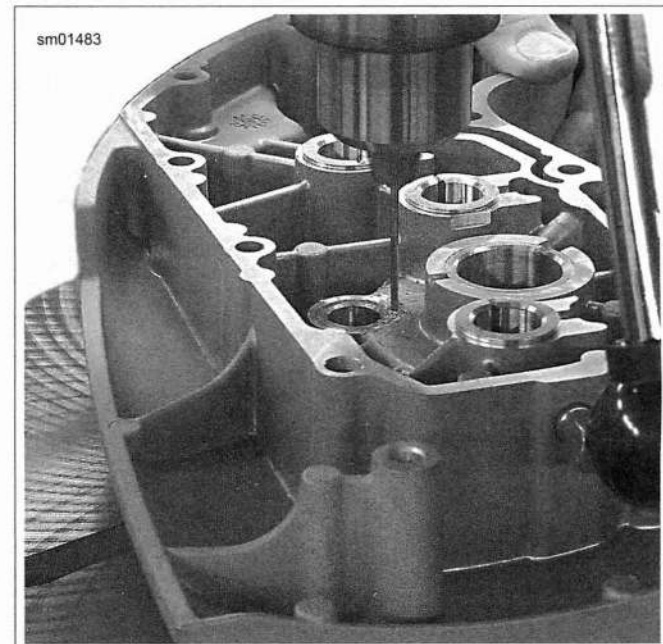

Figure 3-115. Drilling Pinion Bushing Dowel Pin Hole in Gearcase Cover
2. See Figure 3-115. Although the original pinion shaft bushing is not "pinned," the replacement bushing must be secured from possible rotation within the cover bore, by installation of a dowel pin Drill a No. 31 hole, 0.281 in (7.14 mm) deep, at top side of boss (side toward top of gearcase cover), centering the drill bit on the cover bore circle (hole is drilled half in bushing O.D. and half in cover bore I.D.).